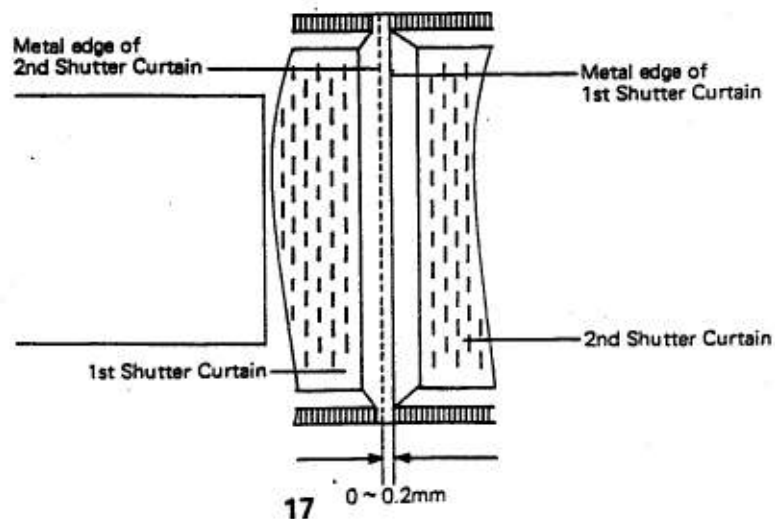

Fig. 30
- The metal edge of the 1st Shutter Curtain should just slightly touch to the metal edge of the 2nd Shutter Curtain or overlaps with the 2nd Shutter Curtain but not more than 0.2mm (fig. 30).